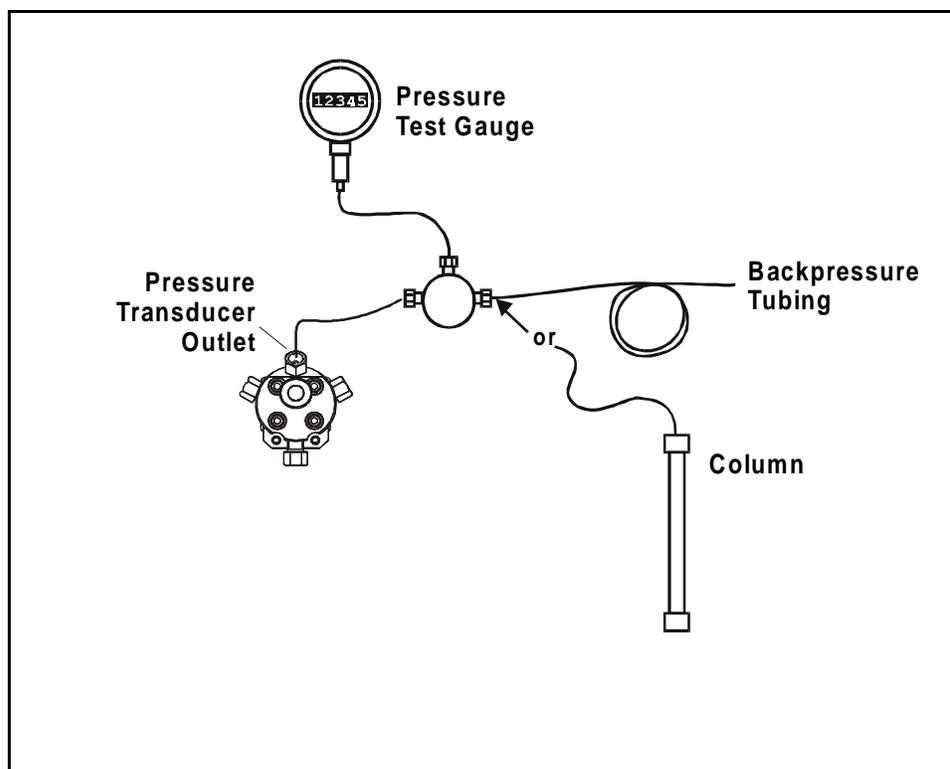

Figure C-26. Pressure Gauge Installation
7. Install a pressure test gauge between the pressure transducer outlet and either a length of backpressure tubing, or a column (see Figure C-26). A pressure gauge assembly (P/N 046175), which includes a gauge with an accuracy rating of  $\pm 0.25\%$ , required fittings, and backpressure tubing, is available for this purpose.